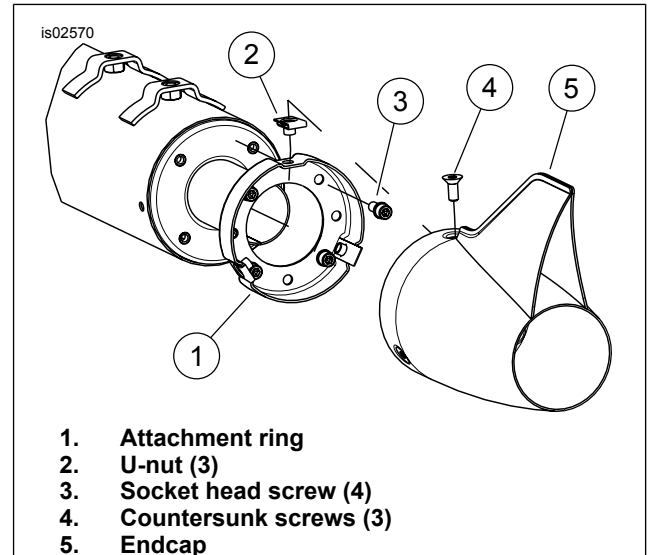

Figure 2. Install Endcap on Attachment Ring
1. See Figure 2. Slide the three U-nuts onto the bosses of the end cap attachment ring cup on the muffler.